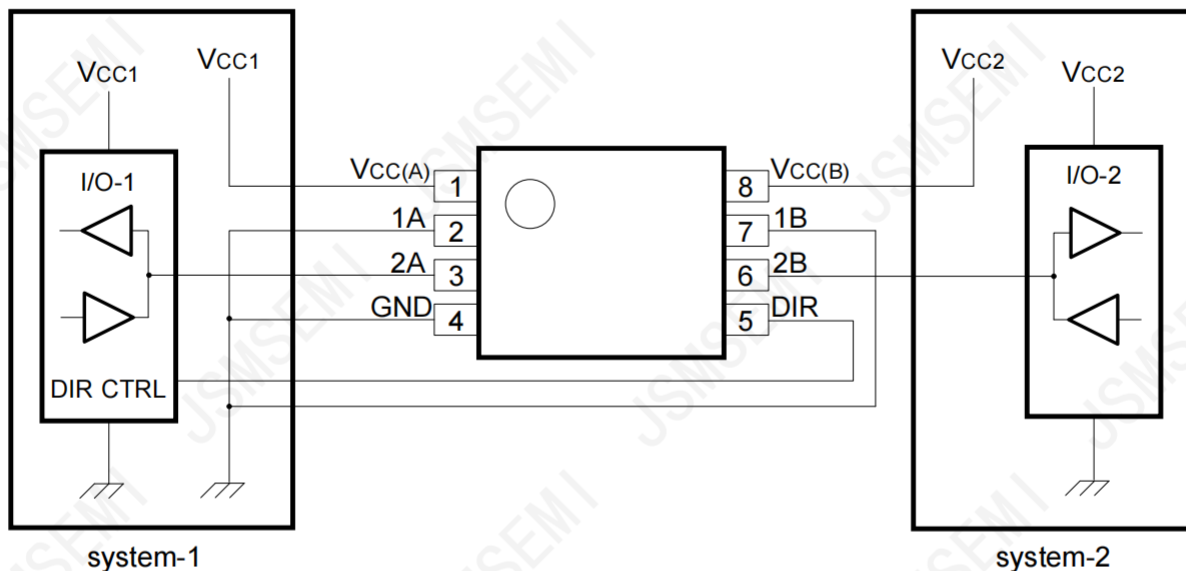

Figure 7. Bidirectional logic level-shifting application
Figure 7 shows the 74AVCH2T45 being used in a bidirectional logic level-shifting application. Since the device does not have an output enable (OE) pin, the system designer should take precautions to avoid bus contention between system-1 and system-2 when changing directions.